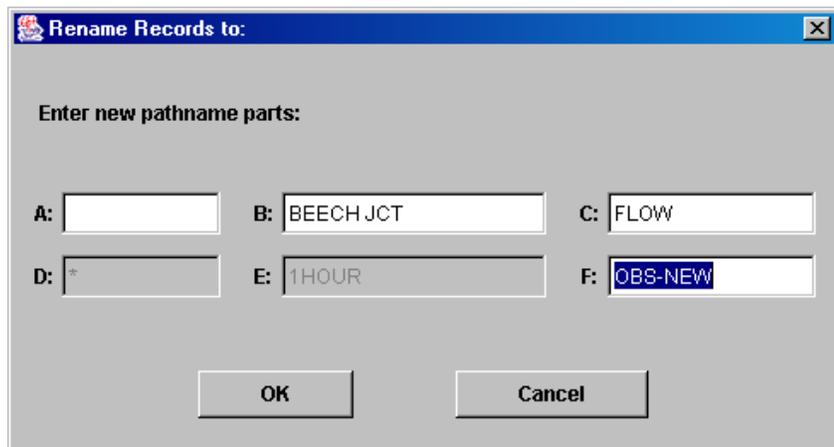

Figure E.16 HEC-DssVue Rename Records Dialog Box
1. Select the record(s) either by double-clicking on it or by highlighting it then clicking the **Select** button. From the **Utilities** menu, select **Rename Records**. The **Rename Records to** dialog box (Figure E.16) will open.